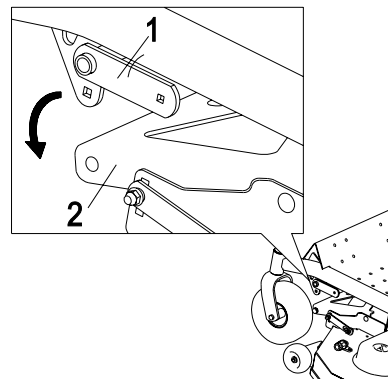
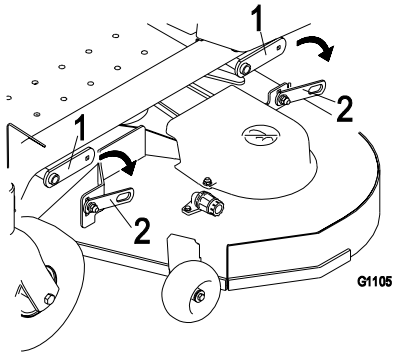

Figure 45
Figure 46
4. Remove the hardware from the deck hanger and deck lift arm on both sides of the deck (Figure 45).
- Remove the nut, bolt, and pivot bushing from the deck strut (Figure 45). Carefully lower the front of the mower deck to the ground (Figure 46).
- Pull the idler pulley in the direction shown in Figure 45 and roll the belt off of the pulleys.
5. Use the existing hardware to attach the rear deck strut of the mower to the deck lift arm (Figure 46).
6. Attach the hardware from the deck hanger and deck lift arm on both sides of the deck (Figure 45).